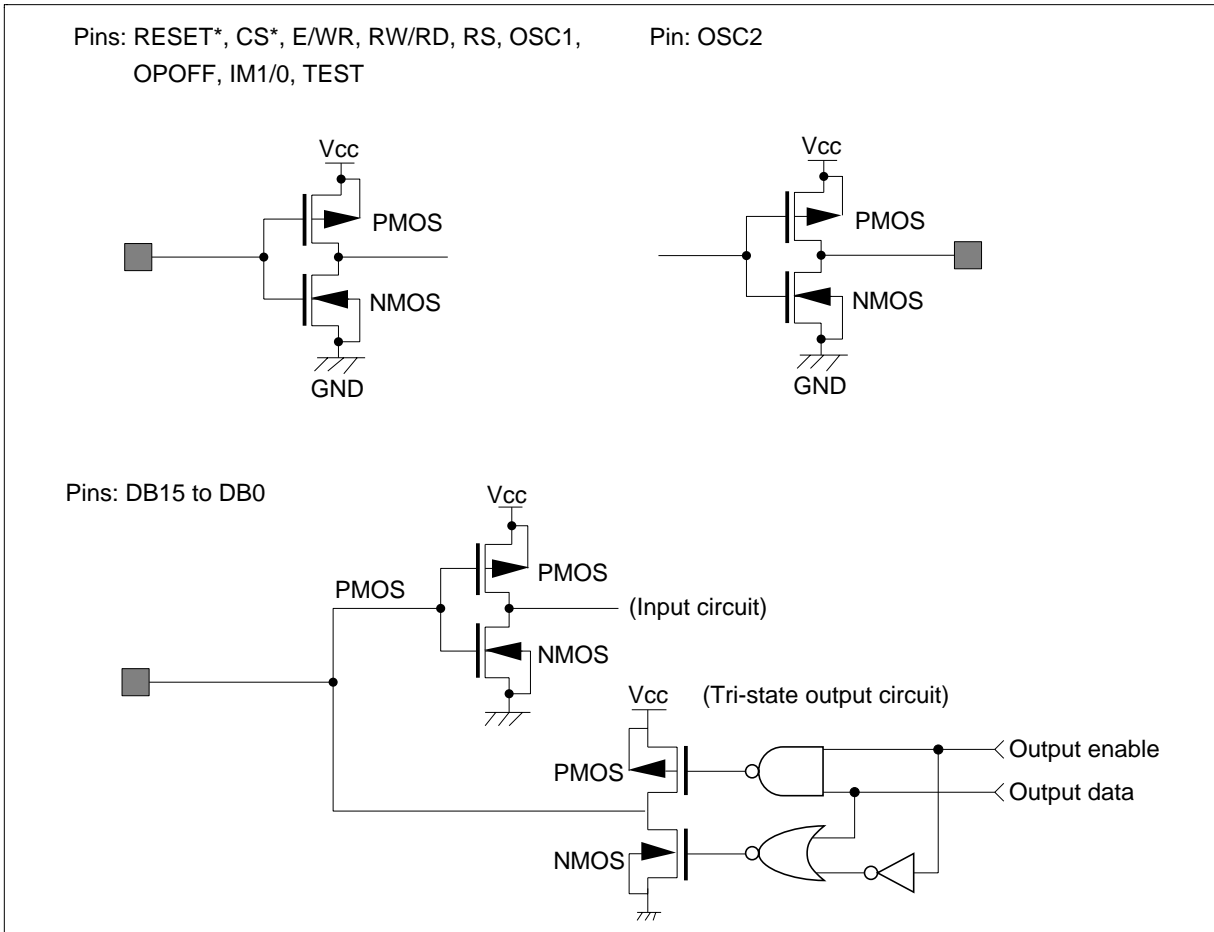

Figure 50 I/O Pin Configuration
2. The following three circuits are I/O pin configurations (figure 50).